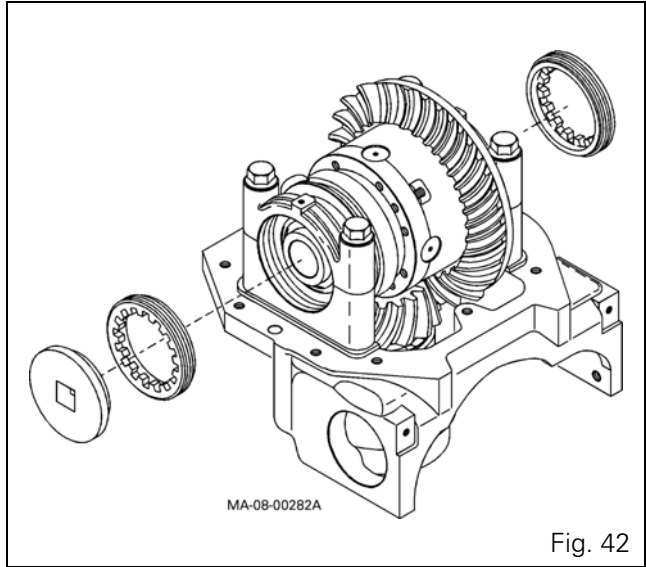

Fig. 42
47. Assemble and tighten the two adjustment nuts in the differential housing using special tools ref. CA119030 (see § J) and CA119149 (see § J) to eliminate the backlash and slightly preload the differential bearings (Fig. 42).